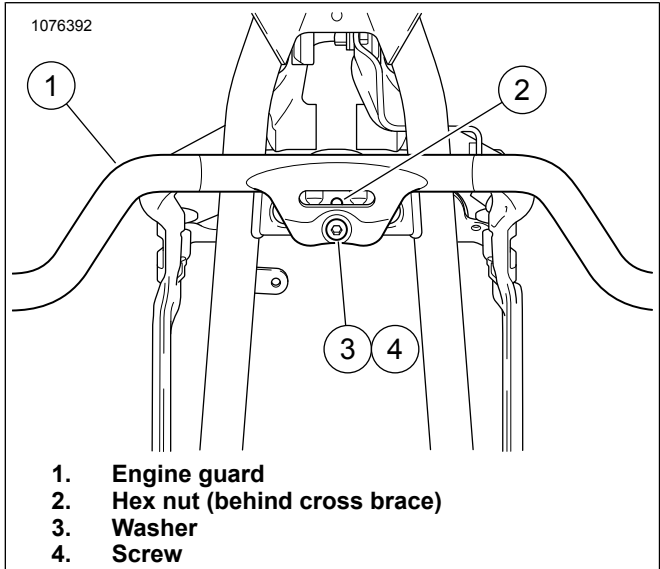

Figure 4. Engine Guard Mounting Flange (Top Center)
4. See Figure 4. Hold engine guard (1) in place, lining up hole in top center mounting flange of guard with hole in cross brace located between front downtubes just below steering head.
5. Install a flat washer (3) onto screw threads and insert screw (4) through holes from front.
- a. Thread hex nut (2) onto screw. Tighten finger-tight.